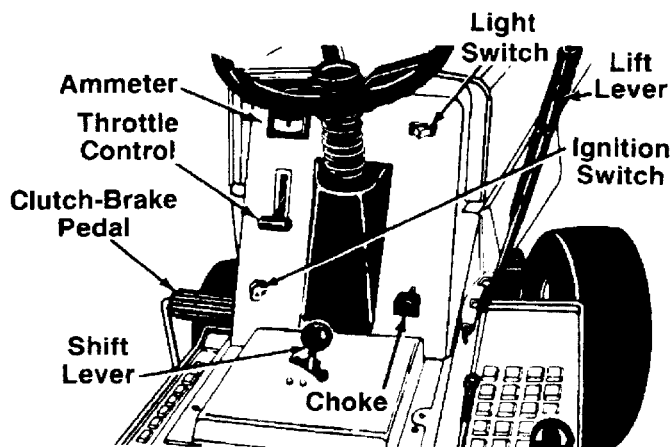

FIGURE 11.
The throttle control is used to regulate the engine speed. To get maximum efficiency from cutting, the throttle should be in the FAST position when operating the mower. See figure 11.
The choke control is located on the dashboard and is operated manually. Details for the choke operation are covered in the separate engine manual packed with your unit. See figure 11.
The shift lever is located on the left side of the console and has three positions, FORWARD, NEUTRAL and REVERSE. See figure 11. The clutch-brake pedal must be depressed and the lawn tractor must not be moving when shifting gears. Do not force the shift lever.
Turn the key to the START position to start the engine. When the engine is running, let the key return to the ON position. To stop the engine, turn the key to the left to the OFF position and remove it to prevent accidental starting. See figure 11.
Push the light switch to turn on the lights. The lights will only operate when the engine is running. See figure 11.
The ammeter registers the rate of battery charge or discharge. The ammeter will register on the discharging side when starting the engine. It should register on the opposite side (charging) when the engine is running in the fast position until the battery is completely charged. With a fully charged battery or with the engine idling, the ammeter will not show a charge. See figure 11.
The clutch-brake pedal is located on the left side of the lawn tractor. Depressing the clutch-brake pedal part way disengages the clutch. Pressing the pedal all the way down disengages the clutch and engages the disc brake. See figure 11.
4. Set the throttle control in the FAST position. See figure 11.
6. Turn the ignition key to the START position. When the engine is running, let the key return to the ON position. See figure 11.